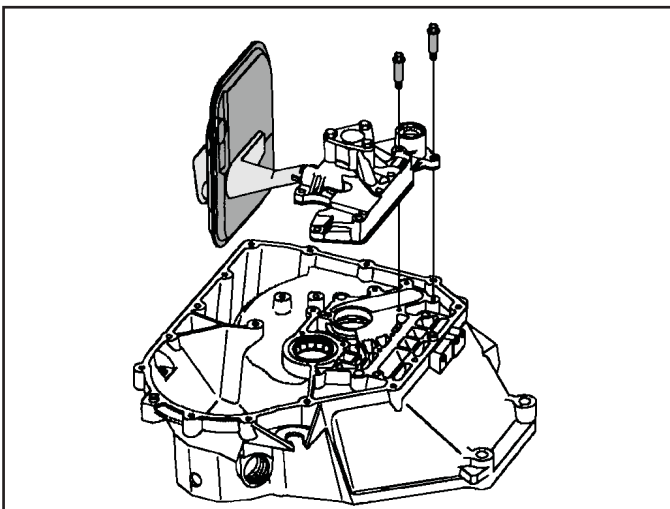

Figure 75
- simultaneously and lift the internal filter and the entire pump assembly off the case (See Figure 75).